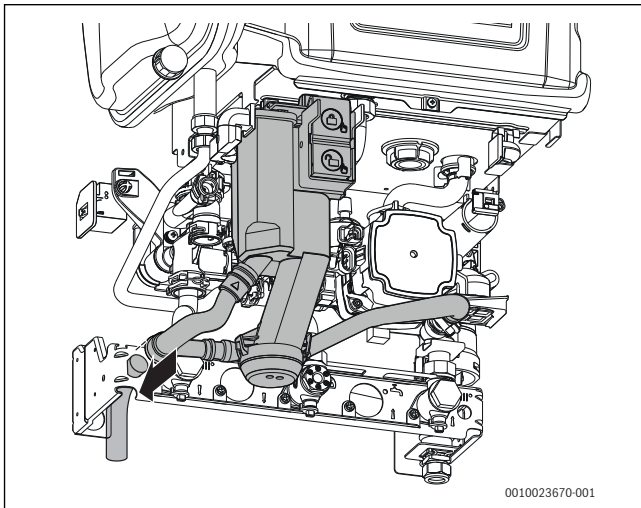

Fig. 50 Condensate connection
- ▶ Refer to Fig. 50, condensate connection: